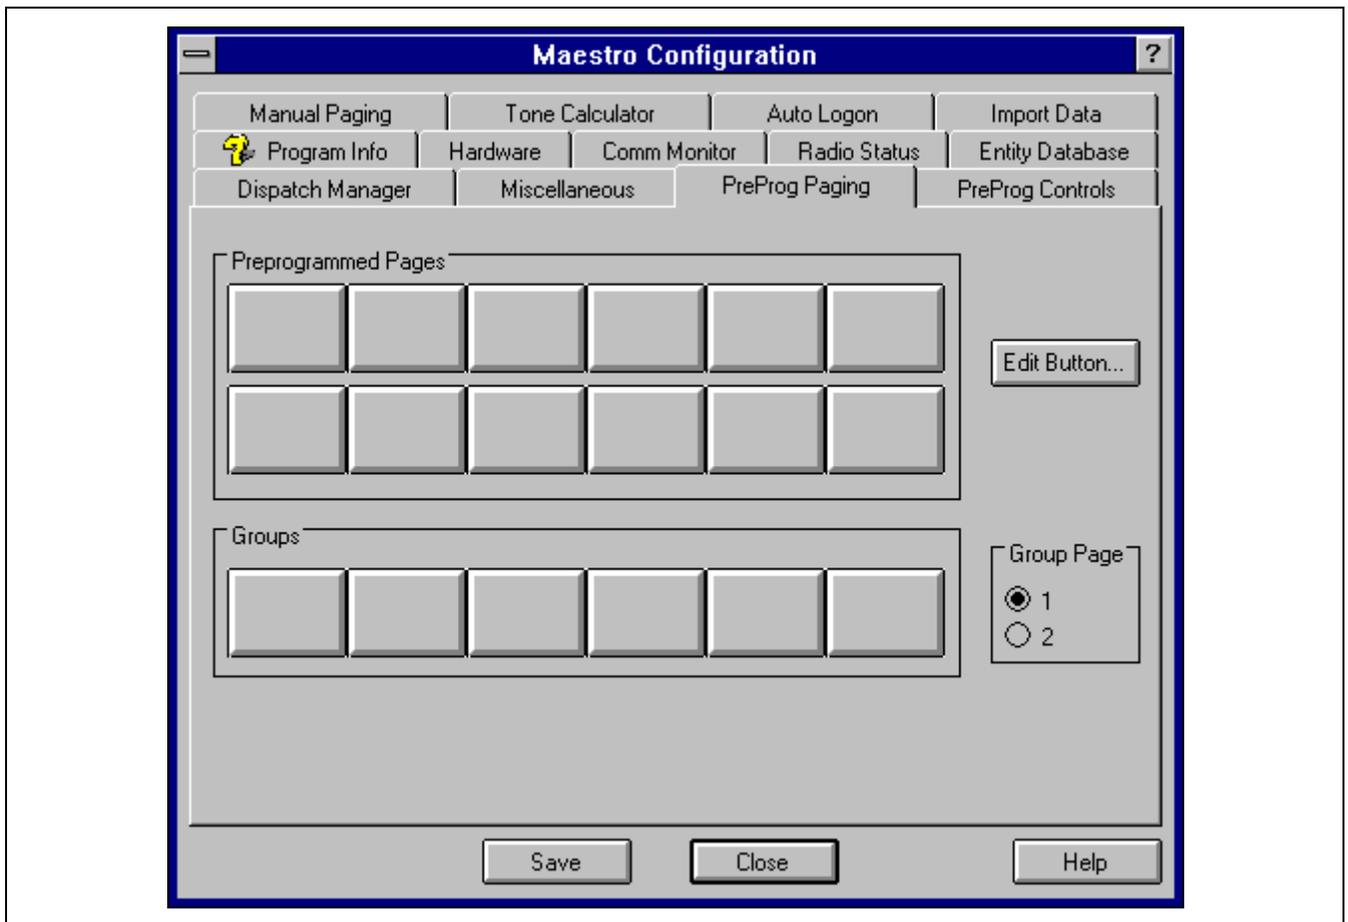
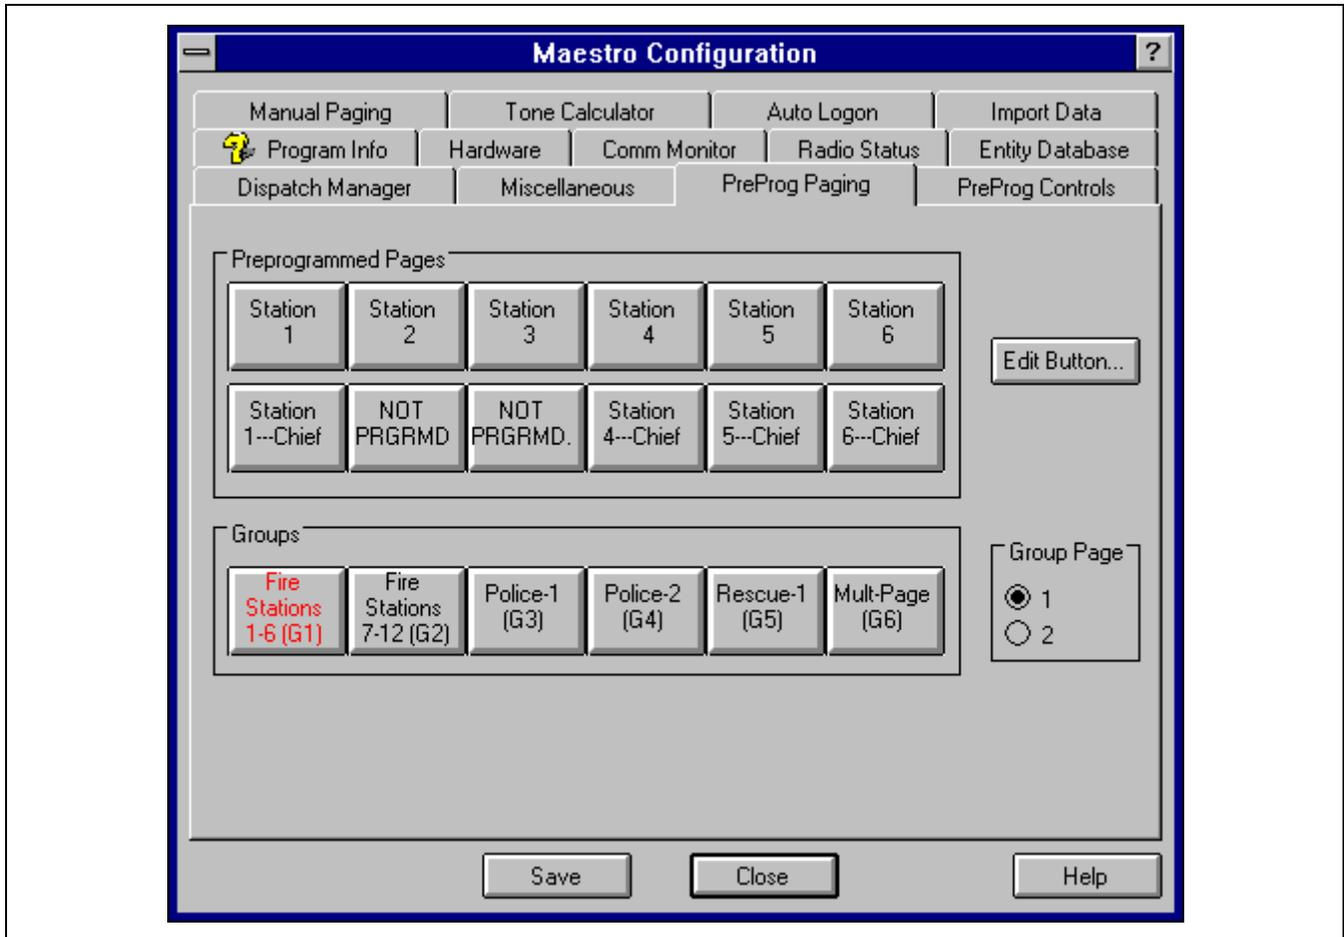
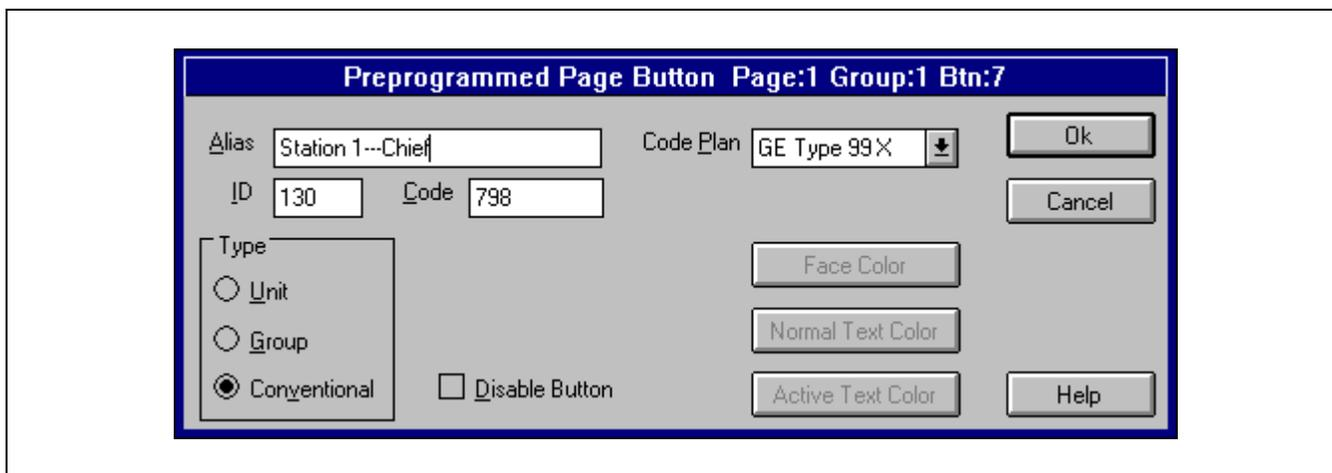

Figure 6-13 — Configuration Editor's Preprogrammed Paging Buttons Dialog Box
Figure 6-14 — Configuration Editor's Preprogrammed Paging Button Dialog Box (With Several Buttons Programmed on Button Group 1 and Button Group 1)
Figure 6-15 — Configuration Editor's Preprogrammed Paging Button Sub-Dialog Box (With Properties Defined for a Typical Button)
1. If necessary, from the PreProg Paging dialog box (see Figure 6-13 or Figure 6-14), click the Group Page option button which corresponds to the desired button group page. Two button group pages are available, each with 72 preprogrammable paging buttons.
2. Near the bottom of the dialog box, click one of the six (6) Groups select buttons which corresponds to the desired button group. Six button groups are available on each button group page.
4. Near the top of the dialog box, click one of the twelve (12) Preprogrammed Pages buttons which corresponds to the desired button for property definition.
5. Click <Edit Button...> to open the Preprogrammed Page Button sub-dialog box. See Figure 6-15. (Alternately, the desired button may be double-clicked to open this sub-dialog box.)
8. Click one of the three (3) **Type** option buttons to select the broadcast entity type.